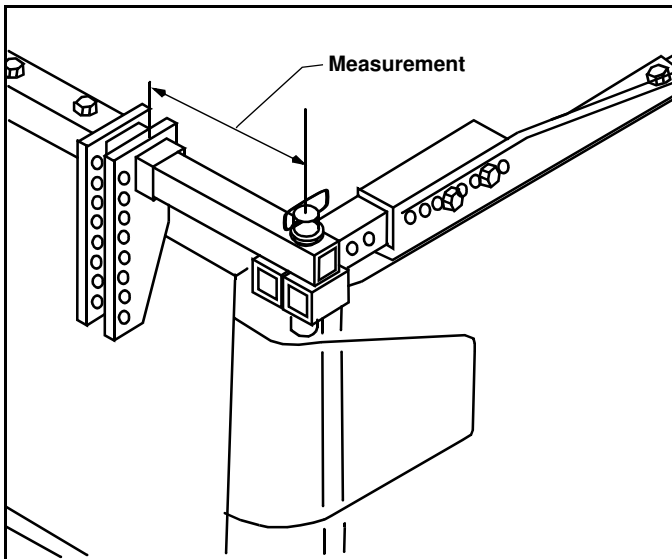

Figure 1-6
5. Measure and record the distance from the center of the right side Hitch Pin to the face of the closest Mounting Plate. (See Figure 1-6)